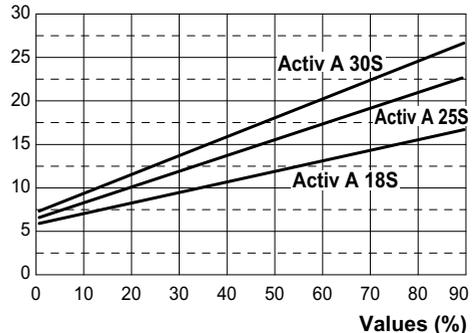
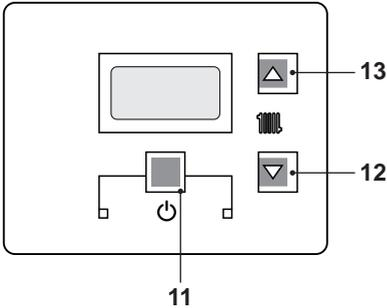
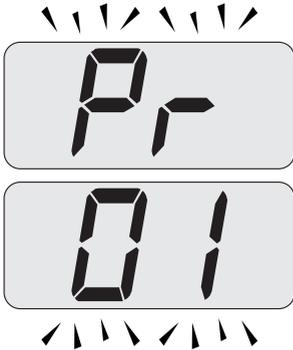
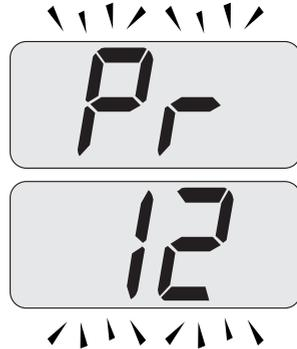

Fig. 7.40
Fig. 7.41
Fig. 7.42
Fig. 7.43
Refer to Fig. 7.40 and determine the correct Value appertaining to the output required for the central heating requirement.
ing keys 11 - 12 - 13 (Fig. 7.41) for 10 seconds at the same time until the letters **Pr** that alternate with code **01** are displayed on the LCD display, indicating that "parameter 01"(Fig. 7.42) has been activated.
- Scroll the various parameters using keys 12 or 13 until the letters **Pr** that alternate with code **12** are displayed on the LCD display, indicating that "parameter 12" (Fig. 7.43) has been activated.
- Press keys 11 and 13 (Fig. 7.41) at the same time until the value of parameter 12 (99=Activ A 18S - Activ A 25S - Activ A 30S) is displayed on the LCD display (Fig. 7.44).
- It is possible to modify parameter using keys 12 or 13 (Fig. 7.41) (Refer to Fig. 7.40 and determine the correct Value appertaining to the output required for the central heating requirement.).
- By pressing key 11 (Fig. 7.41) confirmation of the inserted value is obtained.
- Press keys 11 and 12 (Fig. 7.41) at the same time to exit without changing the value (return to the parameters list Fig. 7.43)
- Press keys 11 - 12 - 13 (Fig. 7.41) at the same time for 10 seconds to exit the "programming mode".